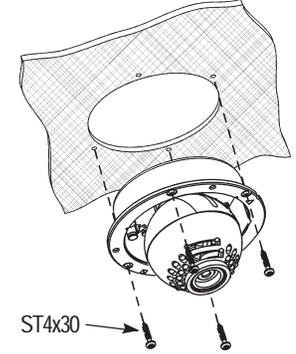

Figure 3 - Mounting to Electrical Junction Box (with surface mount base)
- C. If mounting to electrical box, see figure 3 and 4.